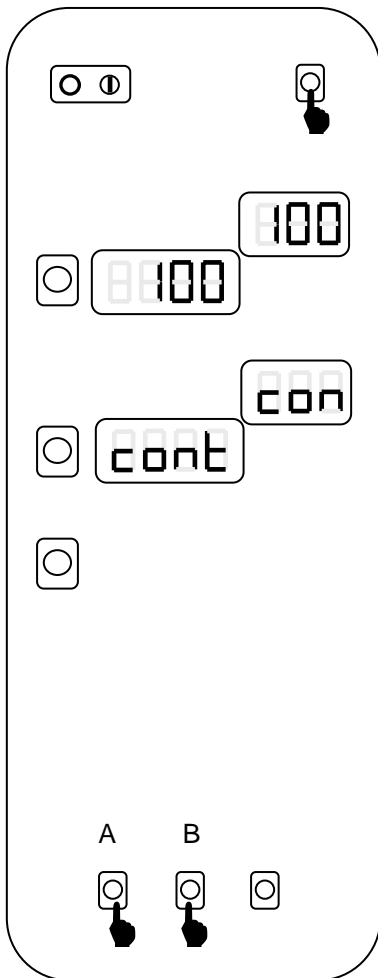

Fig. 14
- 6) Press and hold down the left service buttons (**A&B**) and then press the START button (fig. 14); the oven will give a long beep.